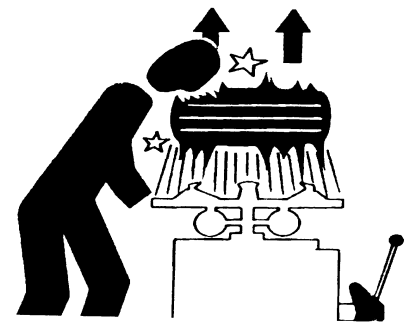

Fig.IT3
- 6) If the bead of the tire is not well seated, due to a strong bead, lift tire manually until the upper bead seals against the rim, then press the pedal all the way down. A strong jet of air will be released through the nozzles in the slides and this will help the bead seal.(Fig.IT3)